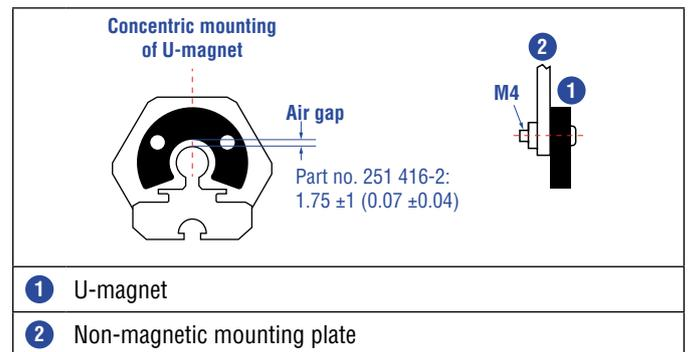
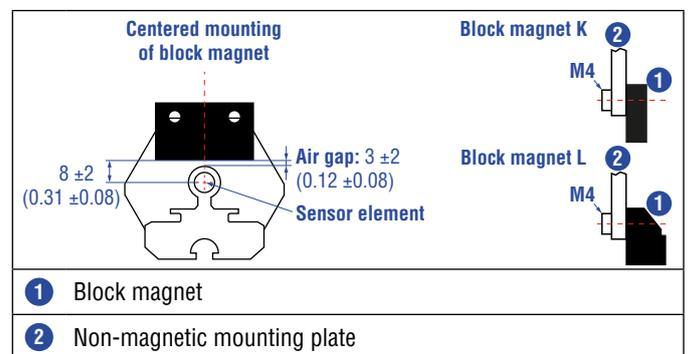

Fig. 49: Mounting of U-magnet (part no. 251 416-2)
Fig. 50: Mounting of block magnet K (part no. 251 298-2) and block magnet L (part no. 403 448)
- Mount block magnets centrically over the sensor rod or the sensor profile. The maximum permissible air gap must not be exceeded (Fig. 49/ Fig. 50).